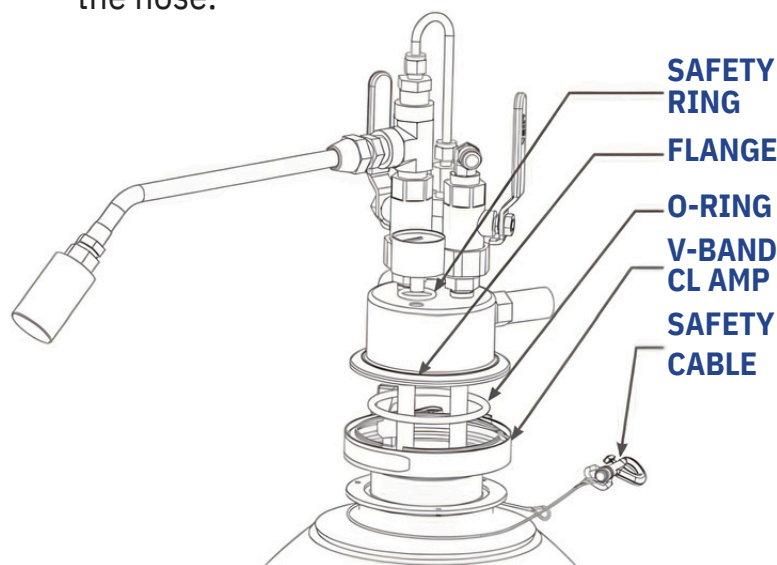

FIGURE 3
5. Position the safety cable assembly around the top of the Dewar, underneath the flange. Loosen V-Band Clamp until the clamp is large enough to remove from the LWD. Drop the band clamp around the flange on the Dewar (see Figure 3 on page 4).